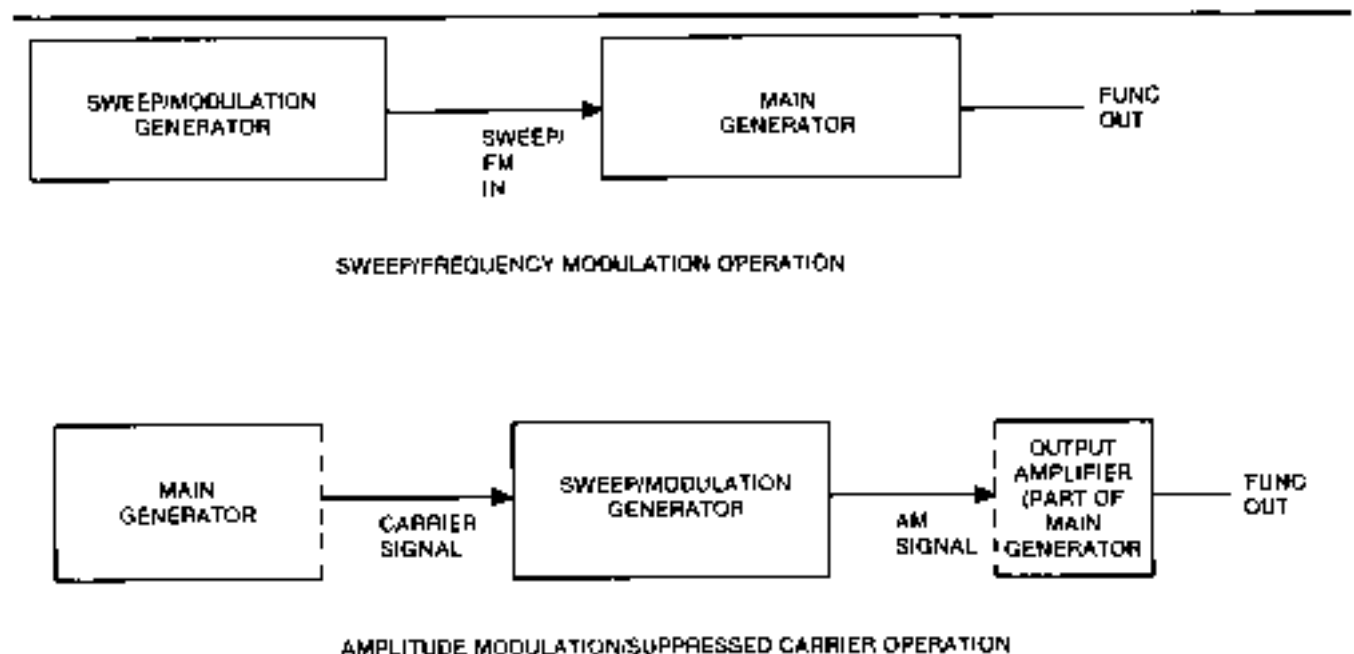

Figure 4-1. Model 193 Overall Block Diagram
While each generator can operate independently, they can be interconnected for frequency sweep, frequency modulation (FM), double side band amplitude modulation, and suppressed carrier amplitude modulation (refer to figure 4-1). For sweep and FM, the sweep/modulation generator varies the frequency of the main generator. In AM, both suppressed carrier and double side band, the main generator supplies a carrier signal that mixes, on the sweep/modulation generator board, with the modulating signal created by the sweep/modulation generator, to produce the amplitude modulated signal which feeds back to the main generator output amplifier.